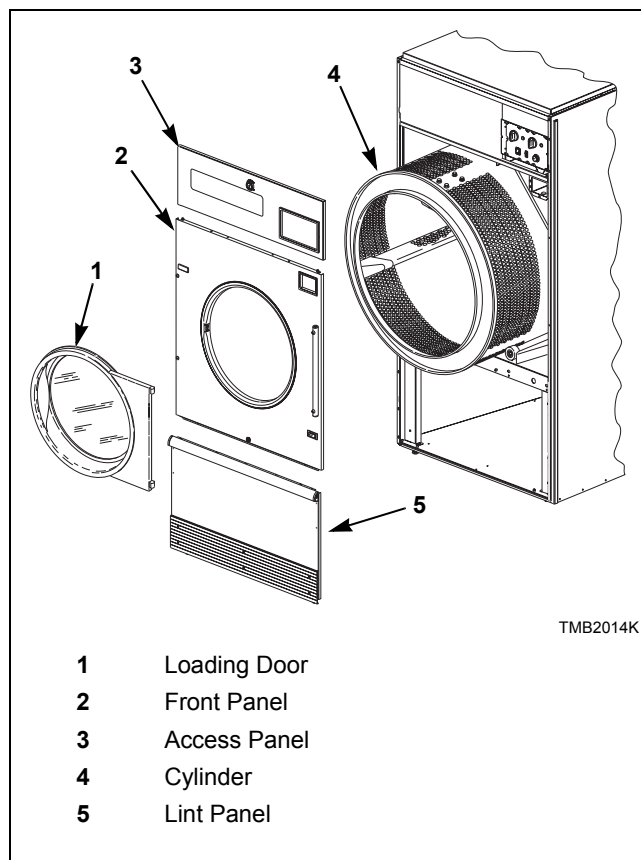

Figure 3
1. Remove the loading door, access panel, front panel and lint panel. Refer to *Figure 3*.
5. Pull the cylinder out through the front of the tumbler. Refer to *Figure 3*.